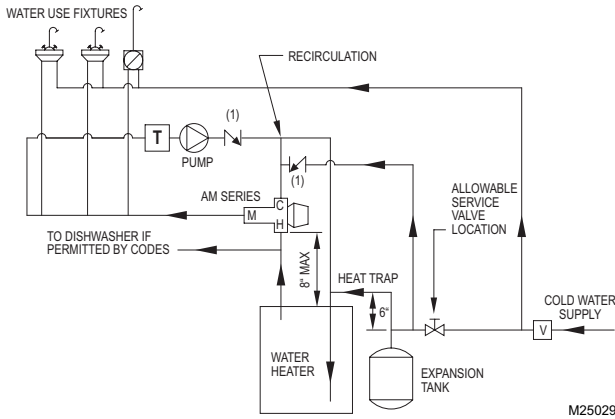

Fig. 5. Water Heater With Recirculation
- Install recirculation pump between last fixture and water heater, as shown in Figures 5 and 6.